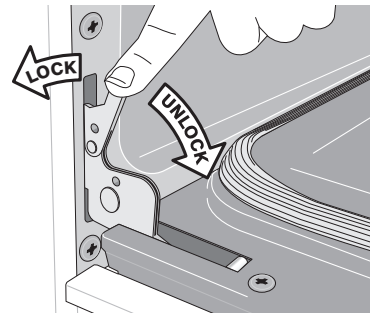

Figure 17: Hinge lock/unlock positions
2. Pull the door hinge locks on both left and right door hinges down from the oven frame completely towards the oven door (Figure 17). A tool such as a small flat-blade screw-driver may be required.
4. Push the door hinge locks up towards and into the oven frame on both left and right oven door hinges (Figure 17) to the locked position; then, close the oven door.